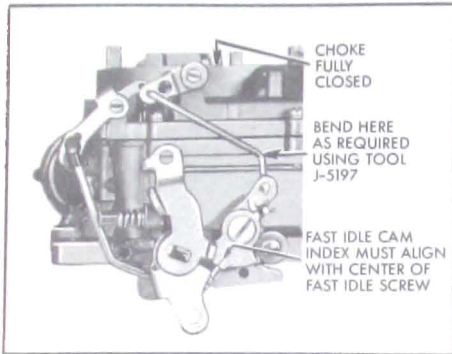

Figure 3-50—Fast Idle Cam Adjustment
4. Adjust Fast Idle Cam Position. With choke valve held fully closed, open throttle slightly to allow fast idle cam to spring to a neutral position. Now index mark on fast idle cam must align with center of fast idle screw. If mark does not align, bend fast idle rod using Tool J-5197 as required to make mark align. See Figure 3-50.